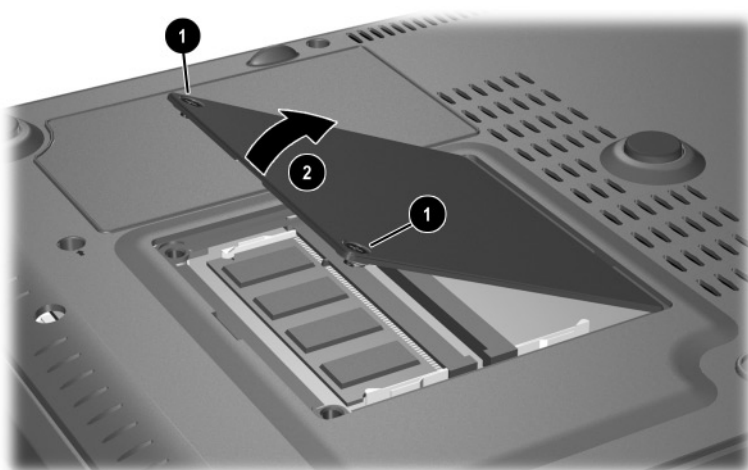

Figure 5-7. Removing the Memory Expansion Compartment
3. Loosen the two PM2.5 $\times$ 4.0 screws ❶ that secure the memory expansion compartment cover to the notebook (Figure 5-7).
4. Use the notch on the left side of the cover to lift the cover up and swing it to the right ❷.